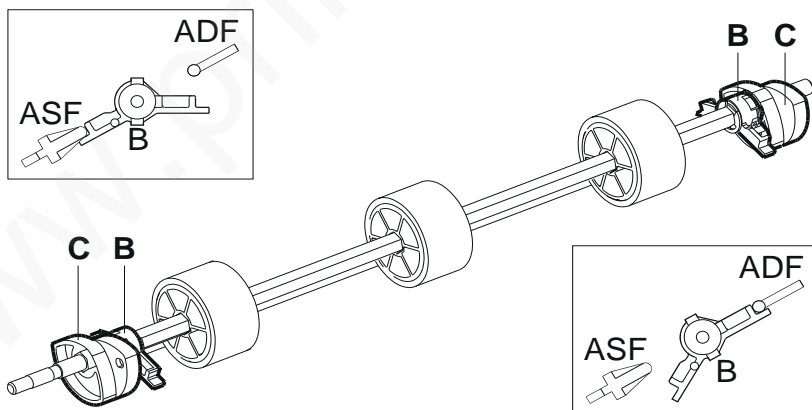

Fig. 7-31
- reassemble the paper shifter roller shaft with cams **C** facing downward and rockers **B** positioned so as to be able to oscillate between the stops of the ASF and of the ADF (Fig. 7-31):
- reassemble the paper shifter roller shaft with cams **C** facing downward and the two rockers **B** in the horizontal position (Fig. 7-31)